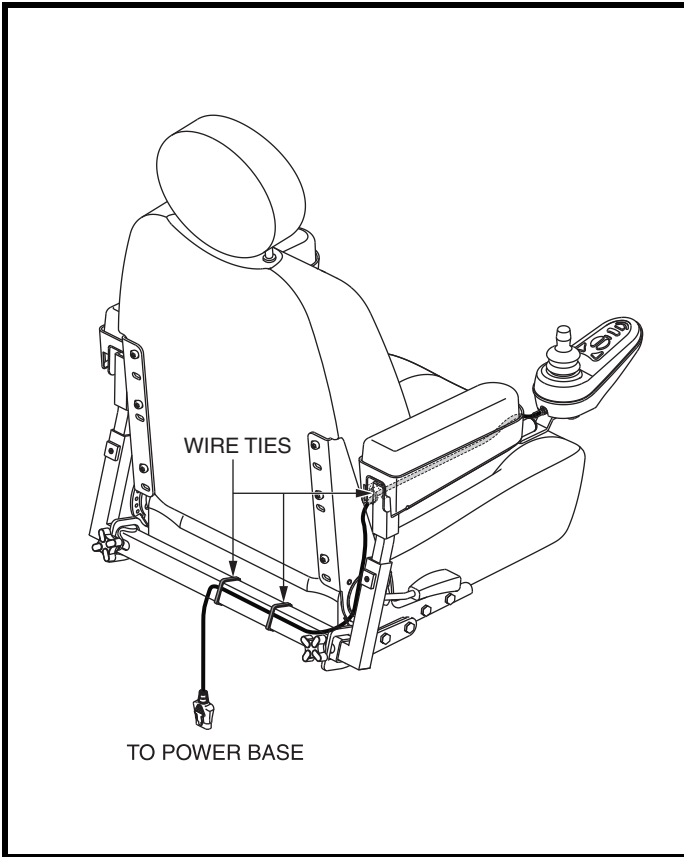

Figure 13. Contour Seat Controller Harness Routing
7. Route the controller connector to the back of the power base and secure the controller harness to the armrest receiver with wire ties. See figure 13 or 14.